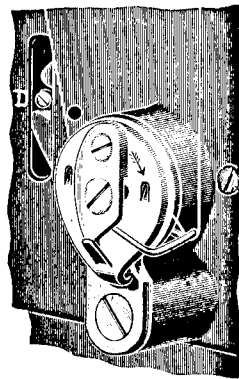

Fig. 3
Place the spool of thread on the spool holder; pass the thread under the face plate thread guide, up over the thread retainer, down between the tension discs, under the thread controller and up over the notch (arrow, see Fig. 3); thence up through the take-up lever, down through the thread guide (on the front of the face plate) through the needle bar thread guide (at the bottom of the needle bar) and from the left through the eye of the needle toward the arm.
To vary the tension of the controller spring remove the face plate and loosen the small set screw (see Fig. 3) which sets the thread controller stud, then from the inside turn the stud forward or backward as required, by using a screw driver in the slot of the screw which holds the thread controller stop and retighten the set screw. In any case when an unusually light tension is used, the tension on the controller spring should be correspondingly light. The coils of the controller spring should be oiled occasionally.
**To Place a New Thread Controller in Position.** Remove the entire thread controller by taking out the largest screw (see Fig. 3) and release the spring by removing the middle screw. (Be careful not to lose the small roller). Place the new spring, the